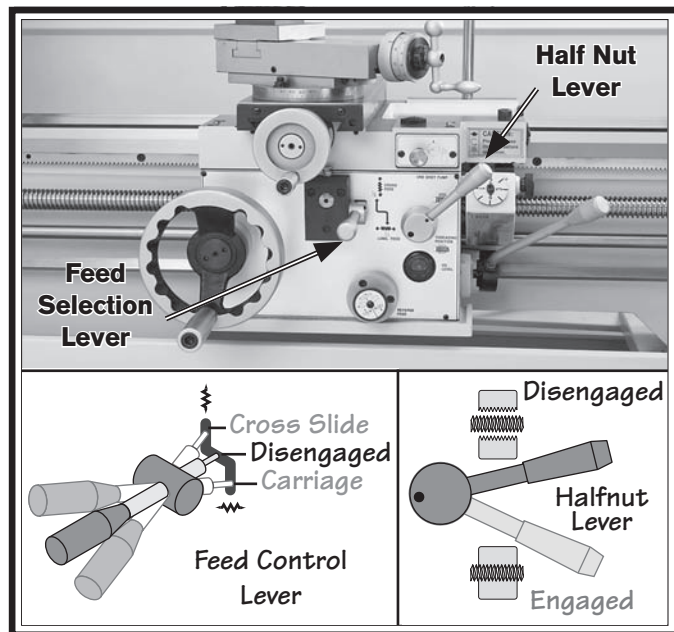

Figure 27. Disengaging carriage components.
10. To ensure the carriage components do not unexpectedly move during the following steps, disengage the half nut lever and feed selection lever (see **Figure 27**).